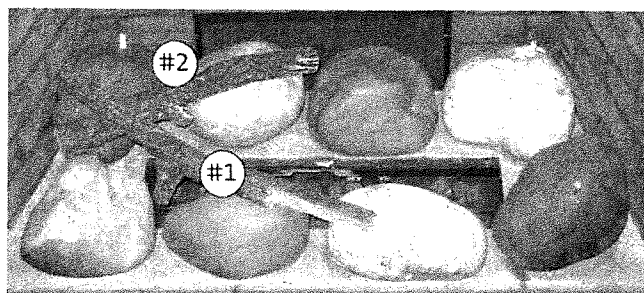

Figure 6.21 Engage Log #2 with pin in Rock #7. Engage Log #1 with pin in Rock #2.
3. Each log is also numbered, 1-8. Position them in the sequence shown in figs. 6.21 - 6.24.